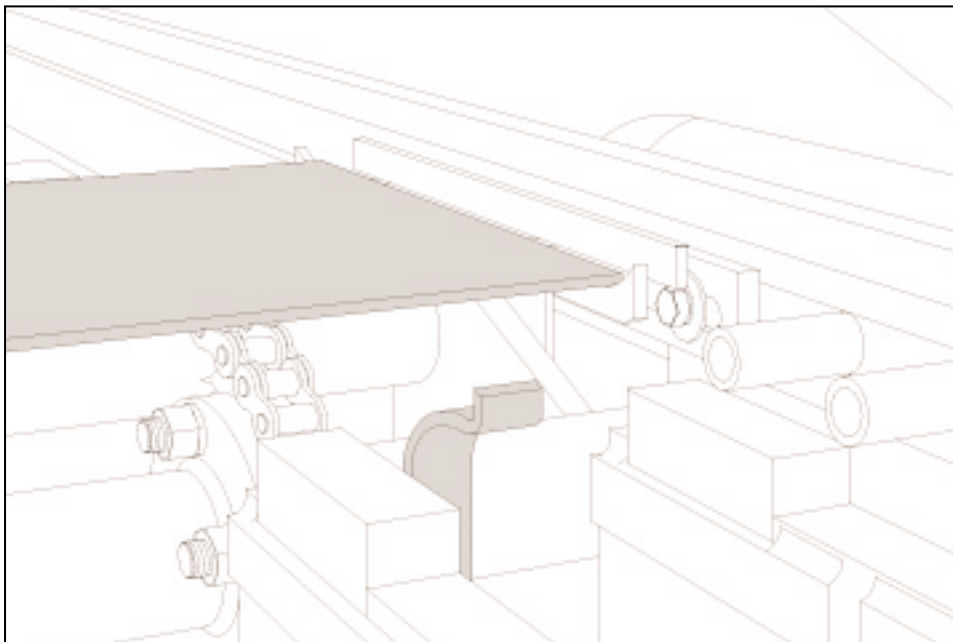

Figure 6.13 PALLET PICK-UP POINT.
6.2.7 Locate top of pallet spring stops even with top of pallet resting on the chains (see figure 6.13).